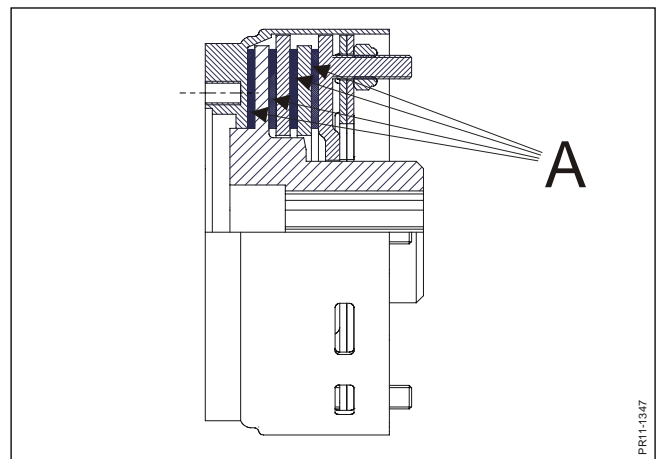

Fig. 7-5
- Fig. 7-5** 2) Check the clutch discs **A** for wear and replace if required.